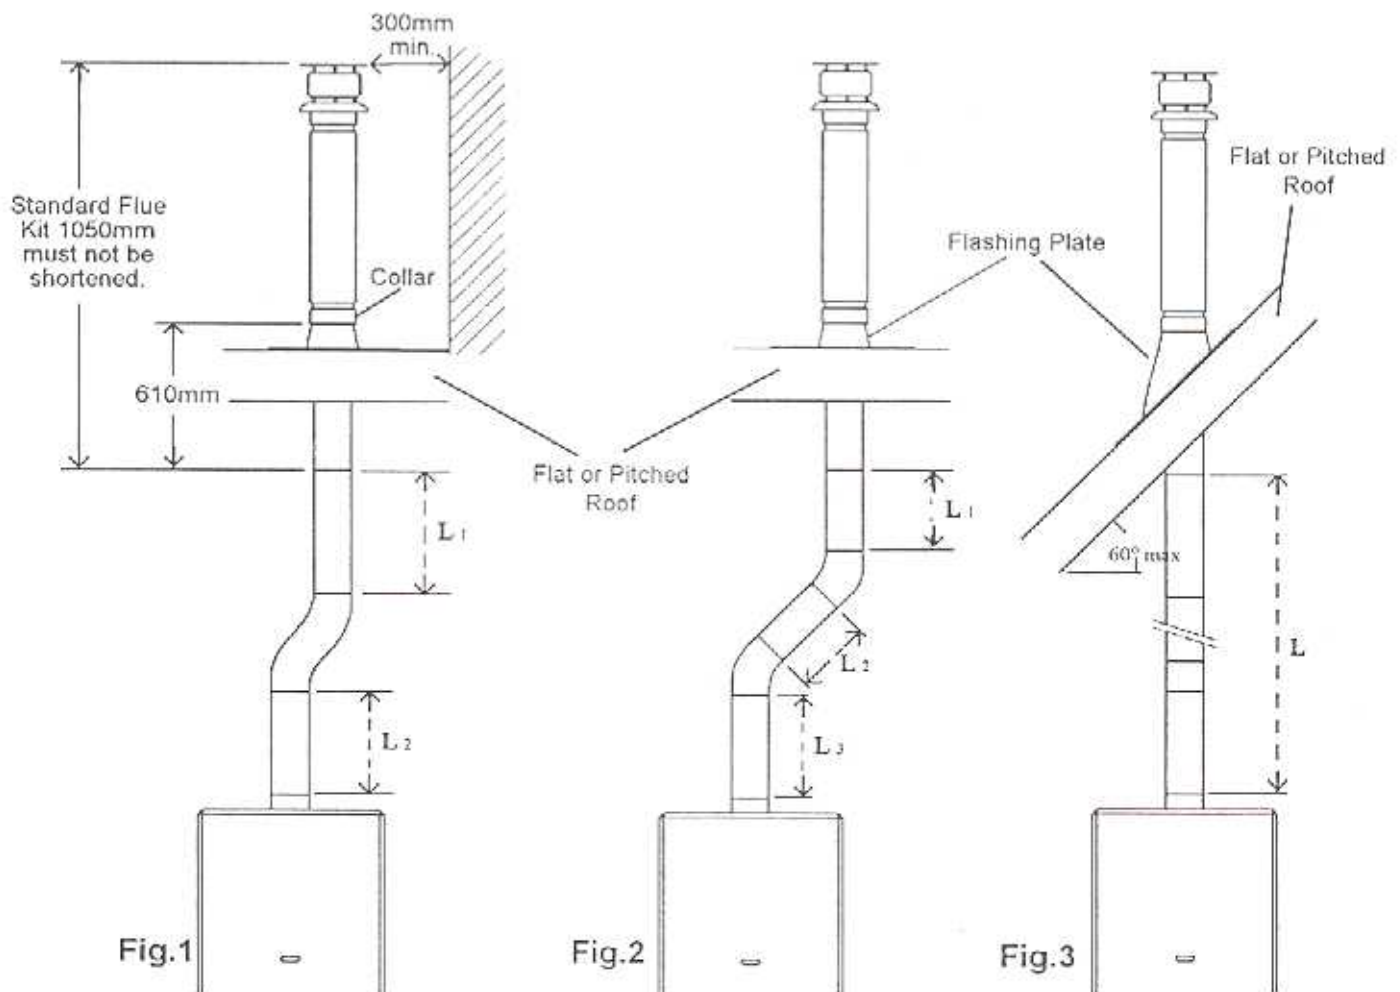

Fig.1
The Vokera Room sealed vertical flue terminal assembly is intended for use where a horizontal flue outlet is not possible or desired. It can be used with either a flat or pitched roof (max pitch 60 Degrees see figs 1,2, & 3). The vertical flue assembly consists of an annular co-axial combustion air intake, with a specially designed terminal fitted to the top. As supplied the flue assembly is 1050mm long overall and **must not** be cut to shorter dimensions, but may be extended using 850mm long extension tubes Part No. 026 (G.C. No 370 346) or 1700mm long extension tubes Part No. 016 to a maximum overall dimension of **3.6metres**. Where a straight flue run is impossible due to an obstruction the flue may be offset using either a maximum of two fixed offsets (100mm) Part No. 060 (G.C. No 301 108) or four 45 Degree bends Part No 059 (G.C. No 301 107). If either a fixed offset or a pair of 45 Degree bends are used the maximum permissible flue height is reduced by 750mm. (See 3.4.5)
2. Ensure that the maximum permissible flue length is not exceeded and that allowance has been made for any bends or offset used. (figs 1,2 & 3)
12. Measure the distance L between the inner flue tubes, or offset/bends (figs 1,2&3). Using the list below determine how many extension tubes are required.
18. After making the last joint to the flue terminal assembly ensure that the collar on the outlet tube is still fully located over the edge of the flashing plate to give a waterproof seal. (fig.1) Trim the last section of the extension if necessary.